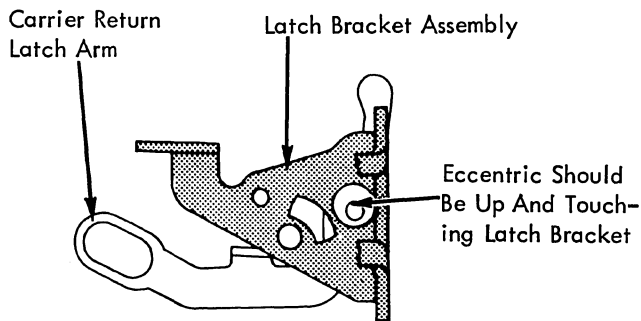

FIGURE 104. Pivot Pin Eccentric (Early Level Machines Only)
5. Pivot Pin Eccentric (found on early level machines only) The eccentric collar should be adjusted with the high point up so that it just touches the operational latch bracket (Fig. 104). This prevents the pivot pin from bowing during a print escapement operation. The eccentric should also be adjusted laterally on the pivot pin so that the end play of the pivot pin will be .002" to .005".